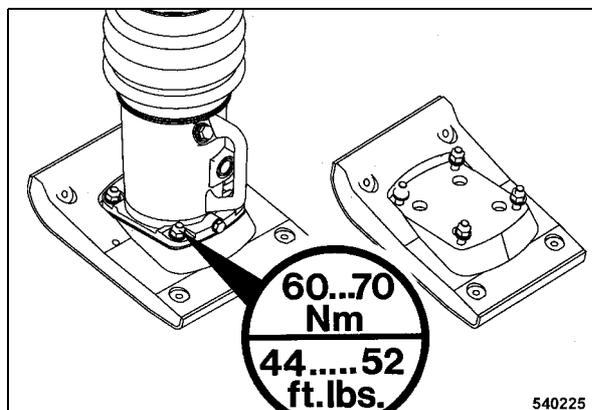

Fig. 28
- After changing the tamper foot plate (Fig. 28) tighten the 4 fastening screws with a tightening torque of 60 ...70 Nm (44...52 ft.lbs).